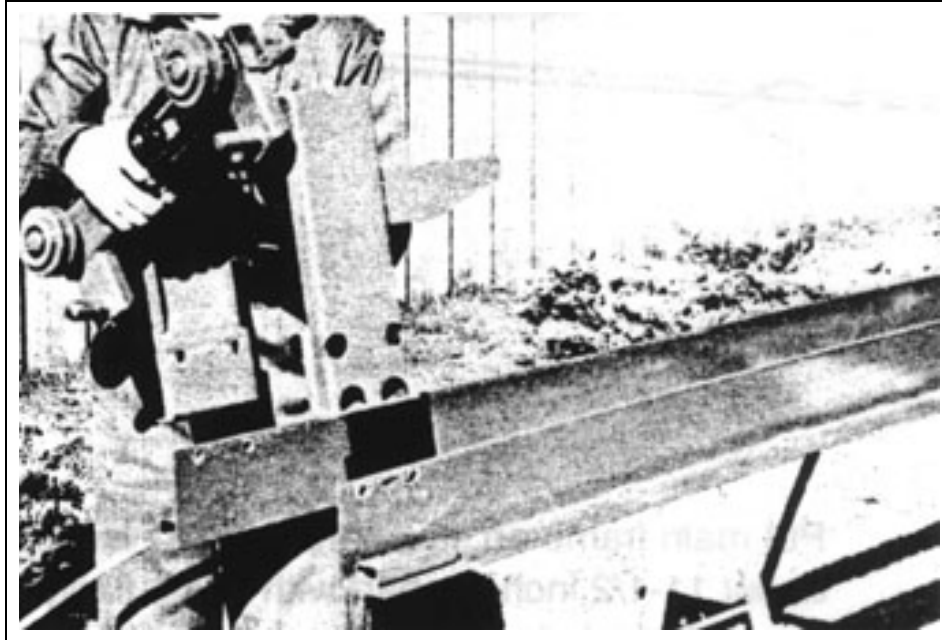

Figure 4E
10. Place the out board pivot end over main frame with track drive rollers toward the outside. Secure with two (2) 3/8" x 1" hex head bolts. Place flat washers on bolt, putting bolt through outboard pivot end and frame, securing with lock washer and nut on the inside (two (2) on each side) then place two (2) 3/8" x 1" hex head bolts for 4 auger machine (two (2) 3/8" x 2" for 6 auger machine) up through the bottom of the frame, through the yoke and secure with flat washer, lock washer and nut (two (2) on each side). (See Figure 4E and Page 50.)